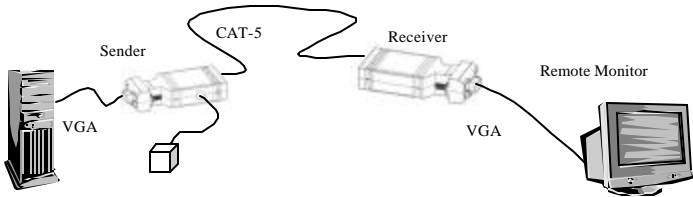

Figure 2.1
1. Connect the vga in (HD-15) connector of the UV1-Sender to the computer's video port using the supplied cable (see figure 2.1).